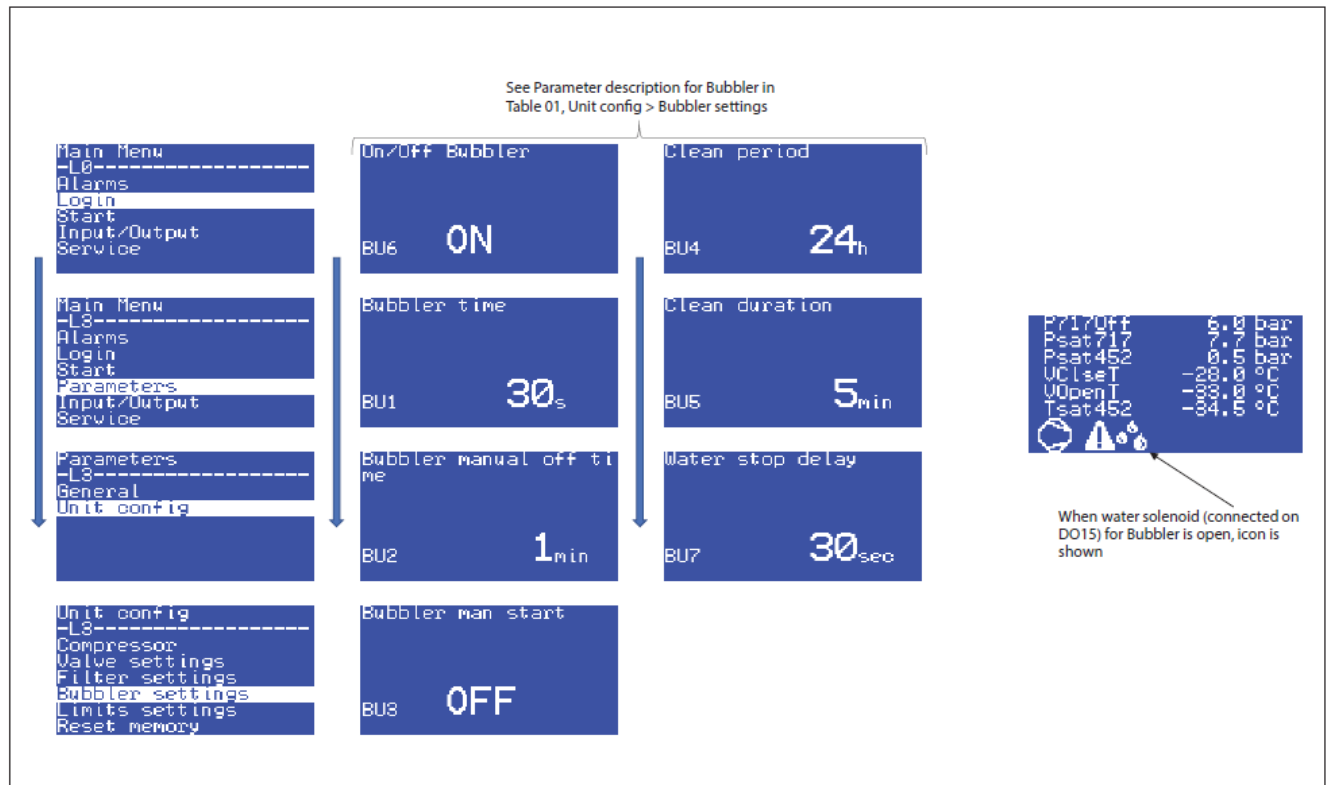

Fig. 22
- Bubbler functionality. See Fig. 22